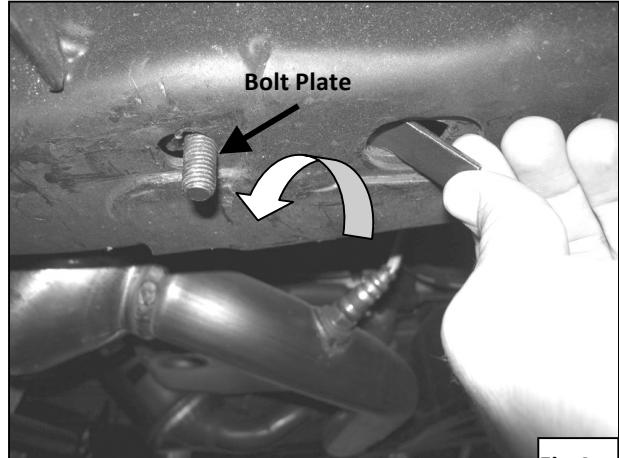

Fig 4
5. Locate the factory slotted and rounded hole on the bottom of the frame by the front body mount. Insert (1) Bolt Plate through slotted hole so bolt drops through rounded hole (**Figure 4**).